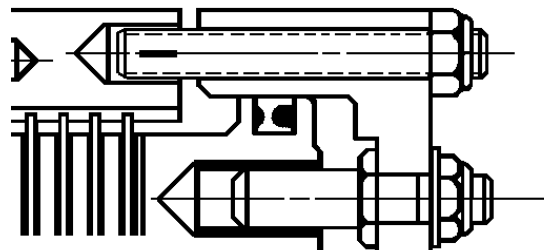

Figure 8
3.4.2 To engage the drive screws, align the drive screws with the mating holes in the drive ring. Loosen the locknuts (11) and screw the drive screws in until they lightly bottom in the mating holes. After the screws have bottomed, back them out one turn to prevent a thrust load from being applied to the cylinder. See Figure 8. Tighten the locknuts to the value indicated in Table 3.